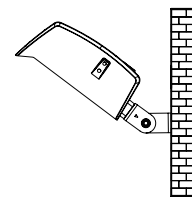

FIGURE 3.4
3. Loosen screw; Adjust fixture angles as per actual demands and tighten screws later. (FIG 3.4) Tip: Angles of the fixture is adjustable